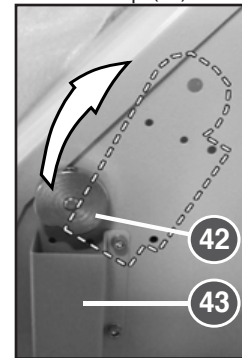

fig. 24
Take out the switch flap (40), insert into the openings for the switch position in the hopper (16) above it and fix there again (fig. 24).
5. Fix the limit switch S8 (18) with 2 screws M4x40 and nuts M4 below the switch cam of the switch flap (40). Undo the threaded pin (44) (Allen key 2.5 mm), turn the cam into position and tighten the threaded pin again.